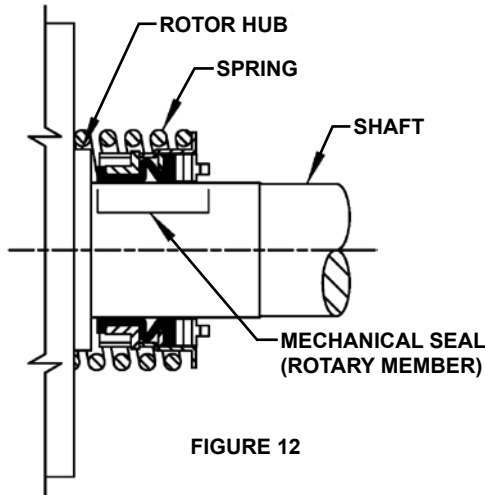

FIGURE 12
5. Place seal spring on shaft against rotor hub. **Refer to Figure 12**.